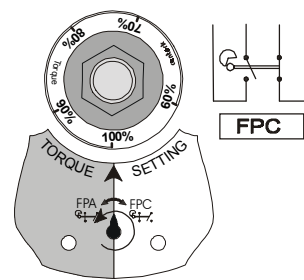

Fig. 8.6.3
- Automatically, or when actuator starts running to opposite direction, mechanism returns or resets. Notice that central SHAFT latches again. (Figure 8.6.3)